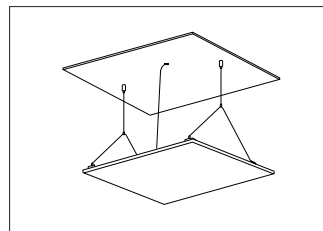

Figure 4
4. Finish installation, power on working. (Figure 4)